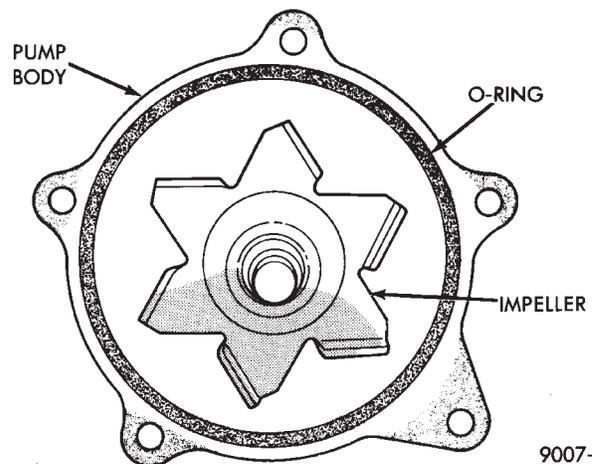

Fig. 8 Water Pump Body
- (1) Install new O-ring in O-ring groove (Fig. 8).
- (2) Install pump to chain case cover. Torque screws to 12 N•m (105 in. lbs.).
- (3) Rotate pump by hand to check for freedom of movement.
- (4) Position pulley on pump. Install screws and torque to 30 N•m (250 in. lbs.).
(5) Install drive belt. See Accessory Drive Belts this group.
(6) Install right front lower fender shield.
(7) Refill Cooling System. See Refilling Cooling System in this section.